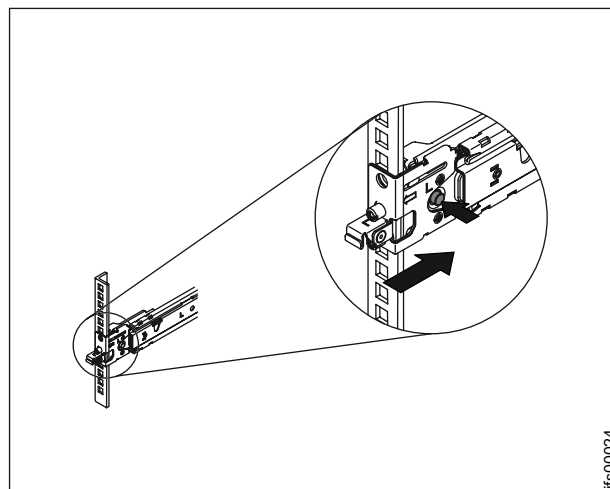

Figure 30. Install the front end of the slide rails.
7. Press the blue button to release the bracket. Push the front latch in all the way. Make sure the latch is fully engaged. Refer to Figure 30.